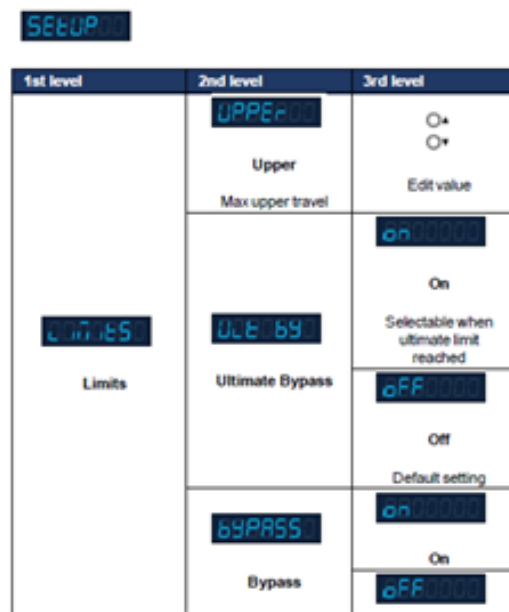

Figure 21. Elevation Controller Setup menu
1. Enter the Setup menu on the Elevation Controller - see Figure 21. Enter the Limits menu and then the Ultimate Bypass menu. Then set the option to ON.